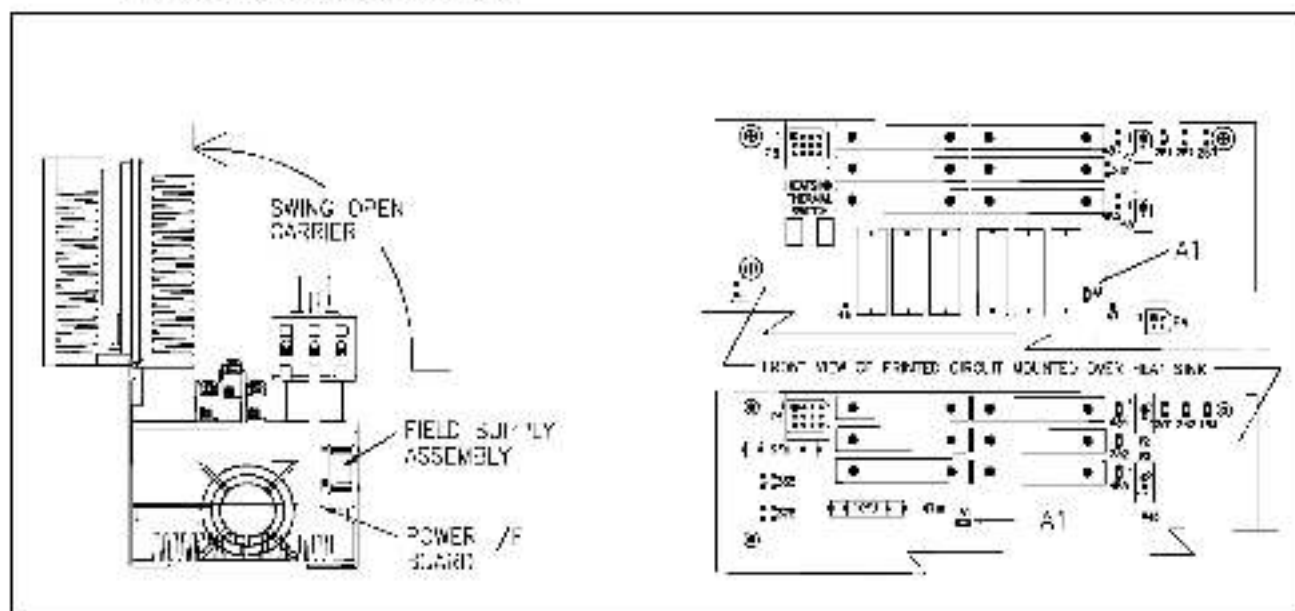

Figure 4. Power Interface Board and Terminal A1 Locations
- Step 1. Locate and remove the jumper wire from the 11FU terminal marked A1 and the terminal marked A1 on the Power Interface board. See Figure 4 for the location of the Power Interface board and terminal A1 on the Power Interface board.